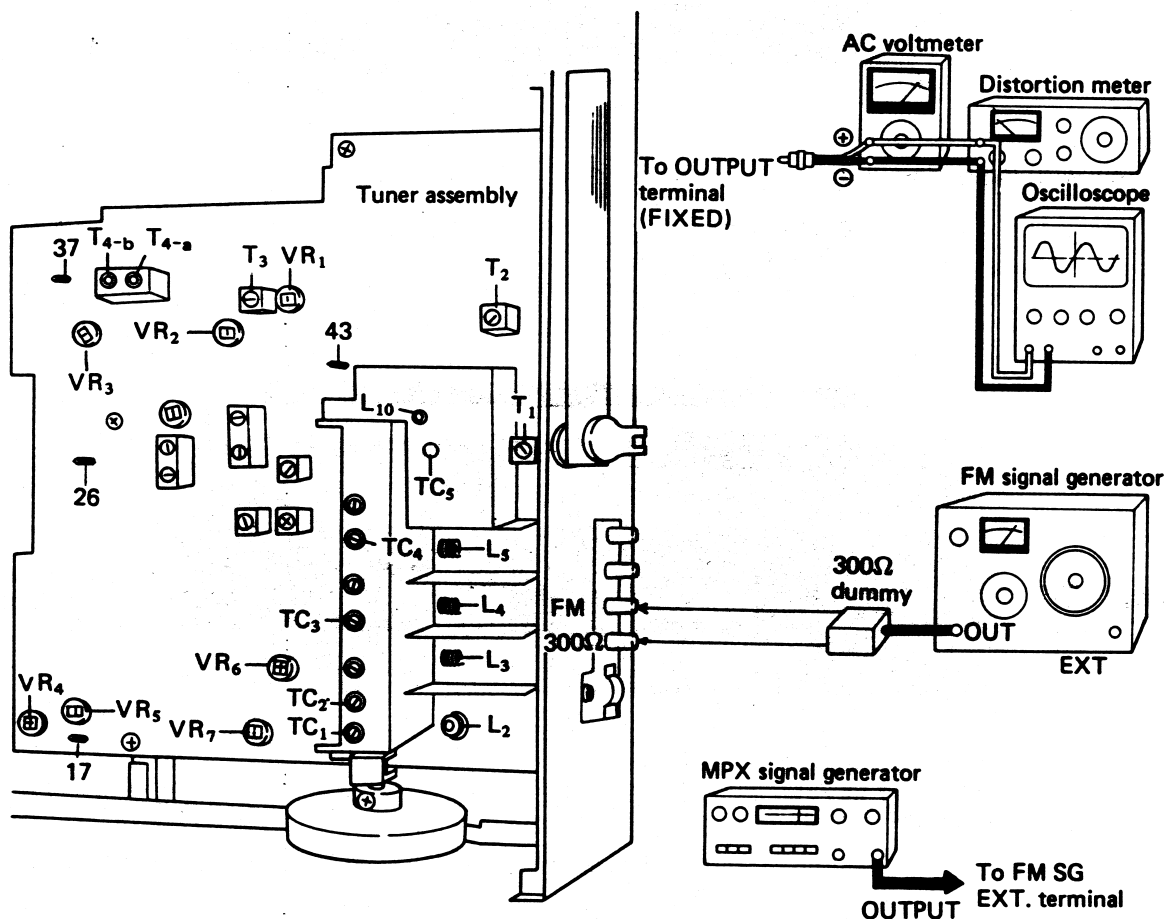

Fig. 7-4
2. Set up the test equipment as Fig. 7-4.